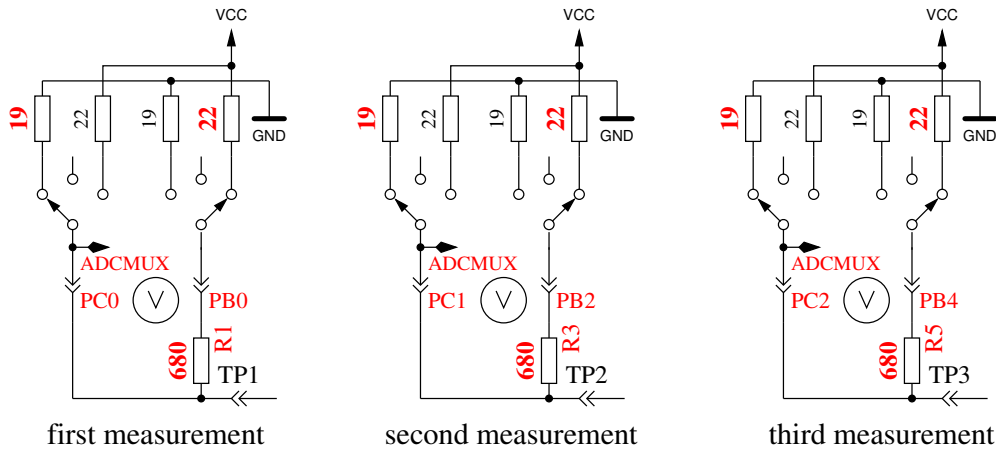

Figure 5.55: Measurement of internal resistance of Port C switched to GND
5. **This step tests the capability of GND (-) connected 470kΩ resistors (H) to pull the test pins to GND.** Row 1 shows the text “RH-”. Row 2 should display zero for all three pins.
6. **This step tests the capability of VCC (+) connected 470kΩ resistors (H) to pull the test pins to VCC (+).** Row 1 shows the text “RH+”. The results are shown als difference to VCC and should be near zero. Great differences from the best value for test 5 and 6 are errors such as isolation problem, flux material or damaged port.
8. **Measuring of internal resistance of pin output switched to the GND signal.** This test and the follwing tests will only be done, if the option AUTO_CAL is selected. The internal resistance of the port C outputs switched to GND (-) are measured with the current of to VCC (+) switched 680Ω resistors, see Figure 5.55. Only the three pins of the ADC port are measured, the resistor port B (PB0,PB2 and PB4) can not be measured without hardware modification. Is is assumed that the port resistance of the different ports are nearly identical. The resistor value will be shown in the next test.